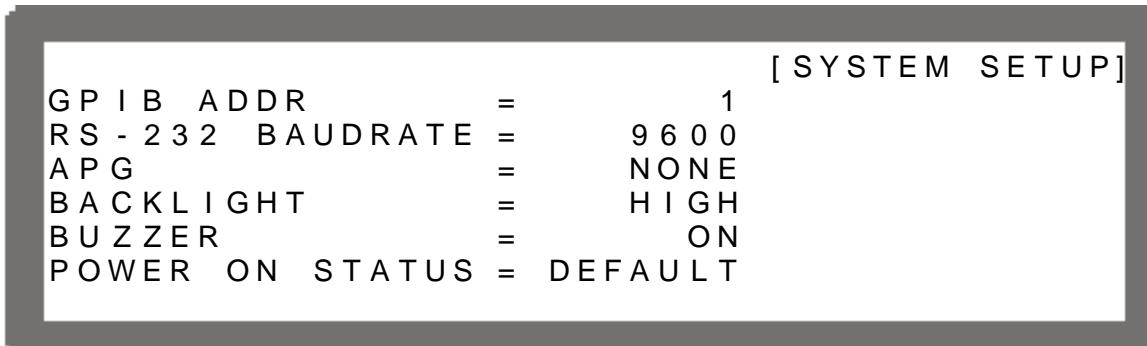

Figure 3-5
1. In Config setup page, press “ 1” will display the screen of Figure 3-5.